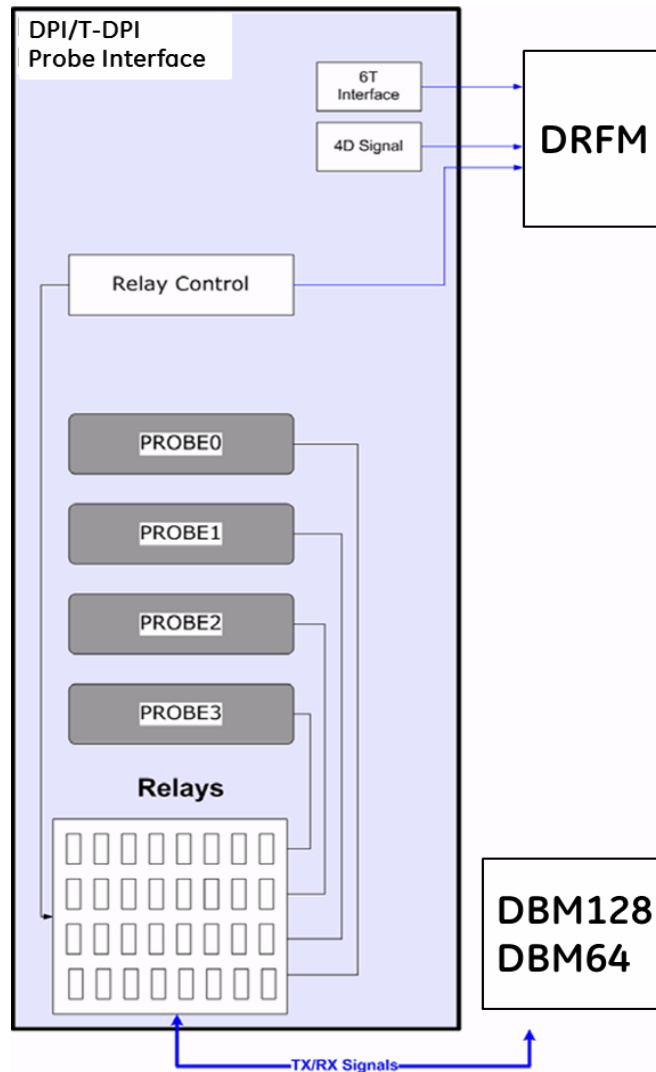

Figure 5-7 DPI - Blockdiagram
- *Figure 5-7: DPI - Blockdiagram*